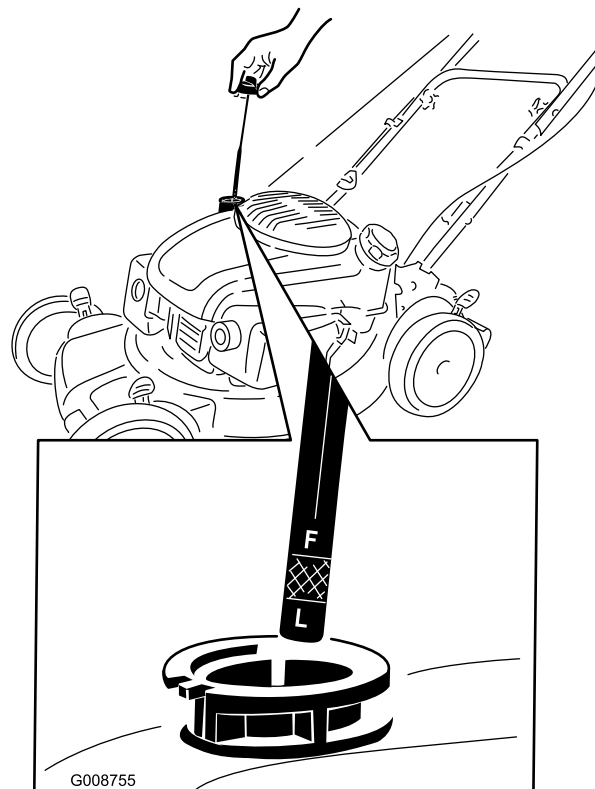

Figure 34
2. Remove the dipstick (Figure 34).
4. **Slowly** pour oil into the oil fill tube until the oil level reaches the Full line on the dipstick (Figure 34). Wait 3 minutes after adding oil to check the oil level with the dipstick. **Do not overfill.** (Max. fill: 22 oz. (0.65 l), type: 10W-30 or SAE 30 detergent oil with an API service classification of SJ or higher.)
Note: Each time you check the oil level, remove the dipstick and wipe it clean, insert it into the oil filler neck (but **do not** screw it in), then remove it again and check the level (Figure 34).